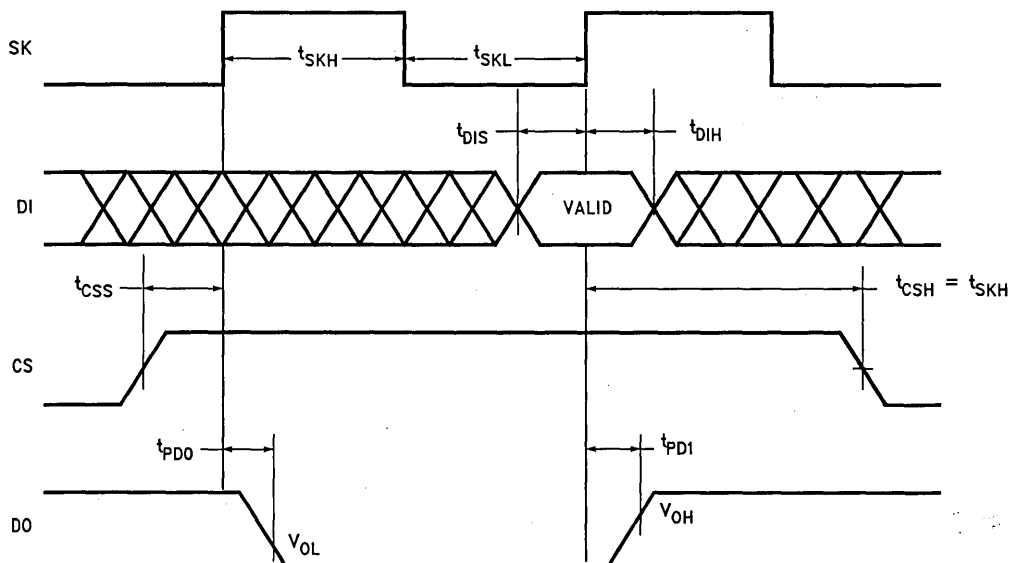

FIGURE 8. Synchronous Timing
The synchronous data timing shown in *Figure 8* is similar to that shown in the various datasheets. There is one significant modification to the timing specification though, the chip select (CS) hold time is referenced to the rising edge of the clock rather than the falling edge. With this modification, the hold time specification must be changed to be the same as